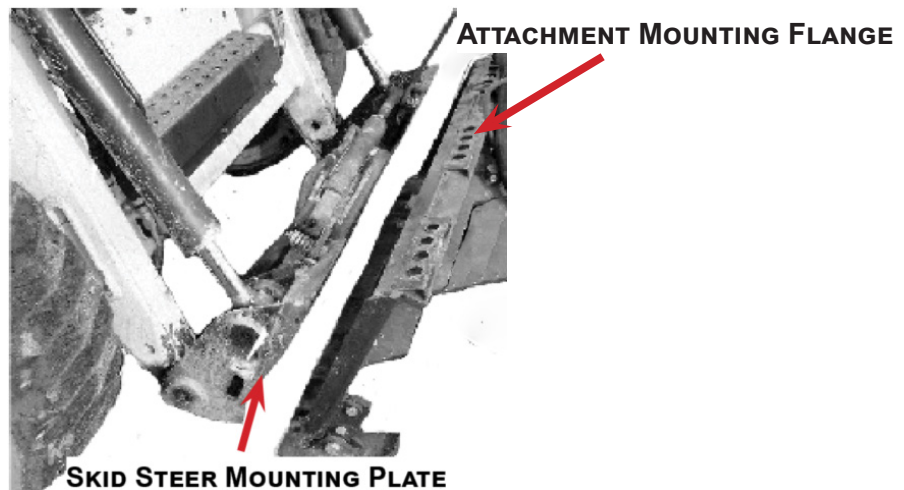

FIGURE 3.2A - SKID STEER MOUNTING PLATE TO ATTACHMENT MOUNTING FLANGE
2. Drive the skid steer to the attachment plate and tilt the skid steer coupler forward and hook the top edge of the skid steer quick attach mechanism under the lip of the grinder's attachment plate. See figure 3.2a below.
3. Slowly raise and tilt back the skid steer mounting plate, moving upward until the grinder's attachment plate is flat against the skid steer quick attach mechanism. See figure 3.2a below.